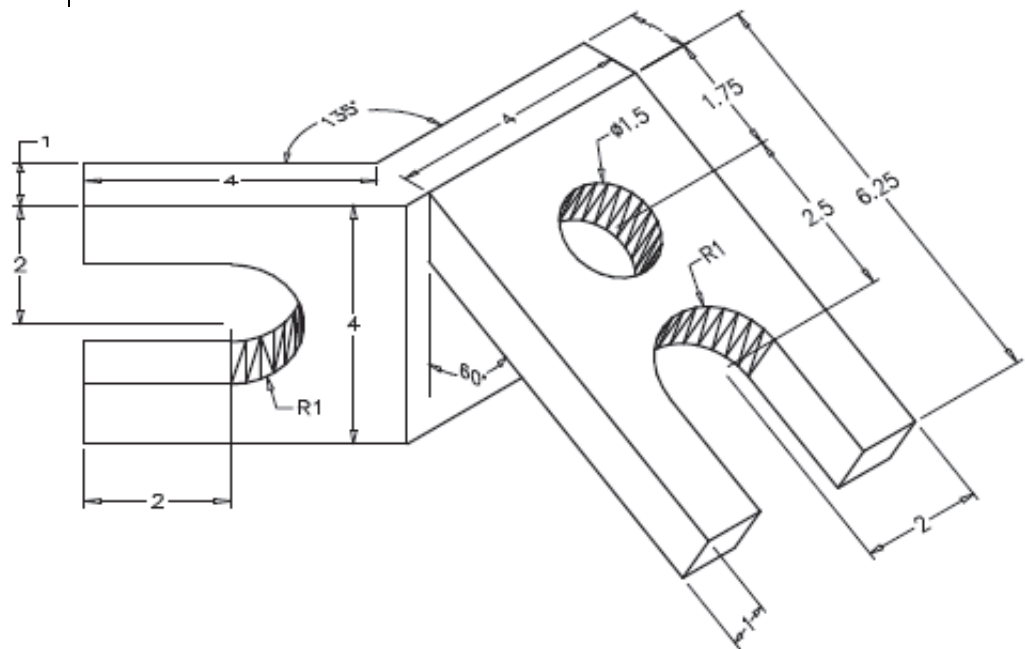

Figure 7–31
In this practice you will create a solid model from the connector shown in Figure 7–31.
2. Draw a solid model of the connector shown in Figure 7–31. Do not include the dimensions.